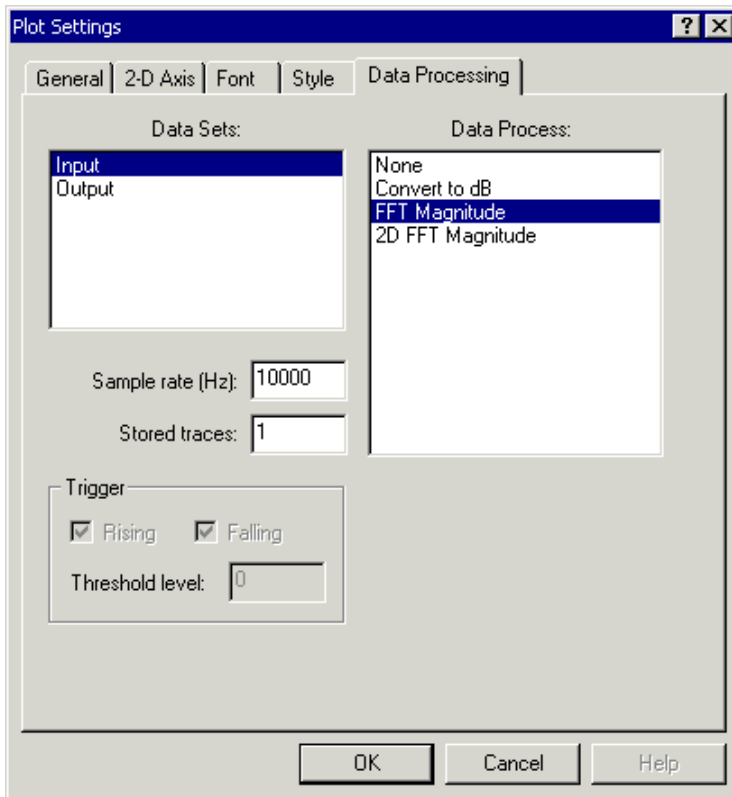

Figure 2-32. Data Processing Page
- a. Click the **Data Processing** tab to display the **Data Processing** page, shown in Figure 2-32.